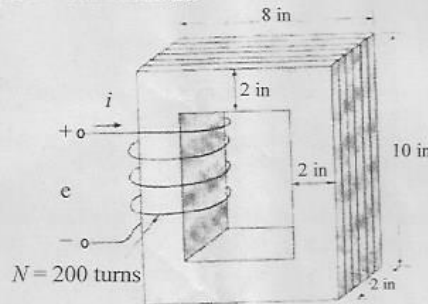

Fig.11(b)
- (b) The magnetic core in figure 11(b) is made from laminations of M-5 grain-oriented electrical steel. The winding is excited with a 60 Hz voltage to produce a flux density in the steel of $B = 1.5 \sin \omega t \text{ T}$, where $\omega = 2\pi \cdot 60 \text{ rad/sec}$. The steel occupies 0.94 of the core cross-sectional area. The mass-density of the steel is 7.65 g/cm^3 . Find :